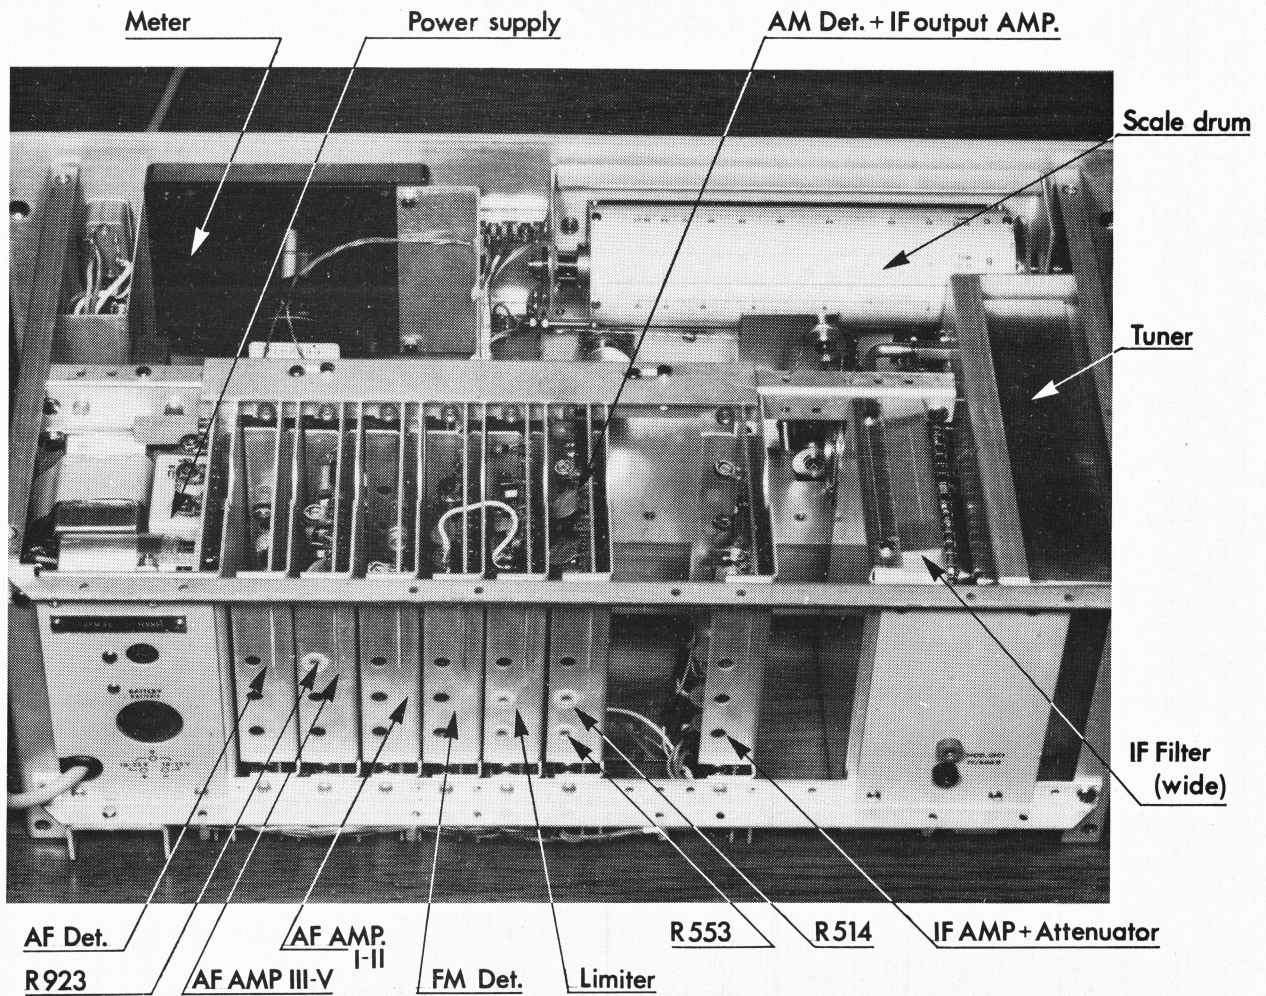

Fig. G4
- 11) Using a trimming tool, adjust the potentiometer R923 shown in Fig.G4, until the meter on the AFM3 indicates 30.